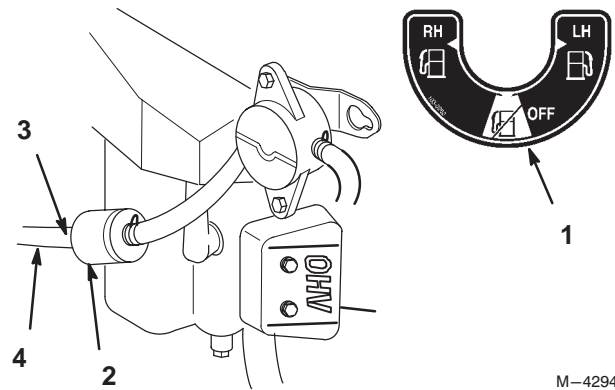

Figure 44
5. Install a new filter and move the hose clamps close to the filter (Fig. 44).
- Close fuel shut-off valve (Fig. 44).
- Loosen the hose clamp at the fuel filter and slide it up the fuel line away from the fuel filter (Fig. 44).
- Pull the fuel line off fuel filter (Fig. 44).
- Open fuel shut-off valve for left and right tanks. Allow gasoline to drain into a gas can or drain pan. (Fig. 44).
- Install the fuel line onto the fuel filter. Slide the hose clamp close to the fuel filter to secure the fuel line (Fig. 44).